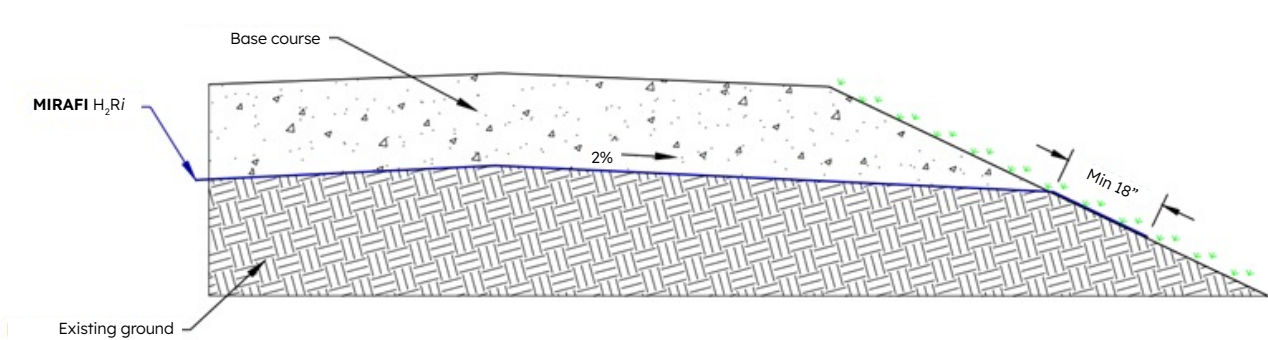

Figure 9: Embankment MIRAFI H₂Ri daylight to vegetated slope detail
- Bio-wicking** – Relies on local vegetation to draw water from the system through their roots, away from the exposed edge of **MIRAFI H₂Ri**. Vegetation can be selectively planted on the sides of the road, as shown in Figure 9, to enable evapotranspiration. Local riparian based plants with a shallow root structures can be selected and planted after construction, or the use of existing on-site topsoil for native species plant growth, as demonstrated in Image 11.